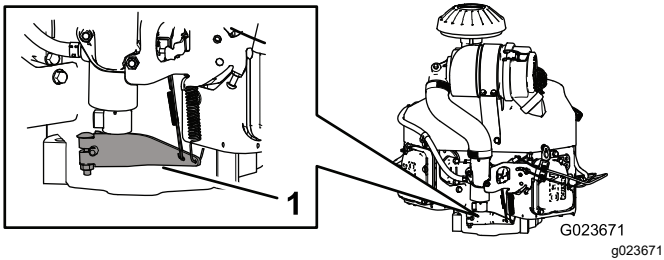

Figure 65
3. Push the spring end of the governor arm downward (Figure 65).